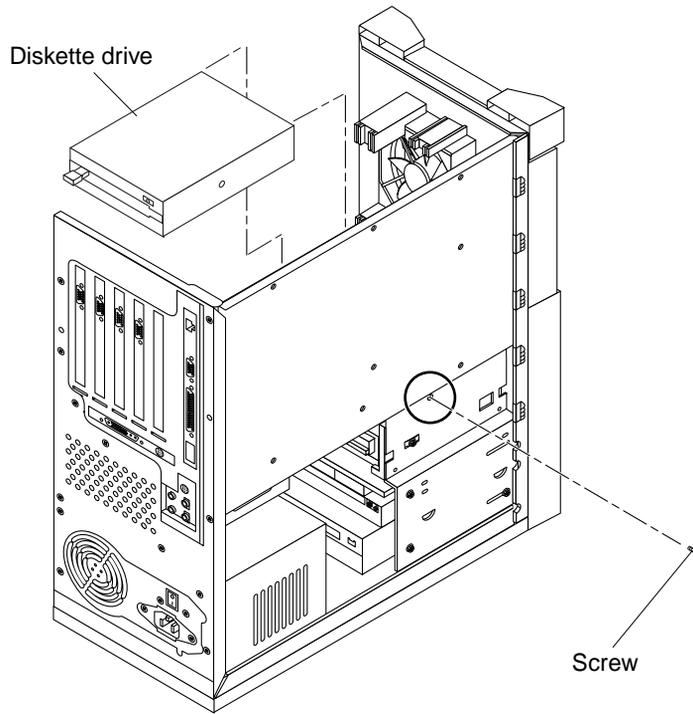

FIGURE 9-3 Removing and Replacing the Diskette Drive (Ultra 10)
6. Remove the diskette drive from the Ultra 10 as follows (FIGURE 9-3):
- 3. Replace the diskette drive into the Ultra 10 as follows (FIGURE 9-3):**